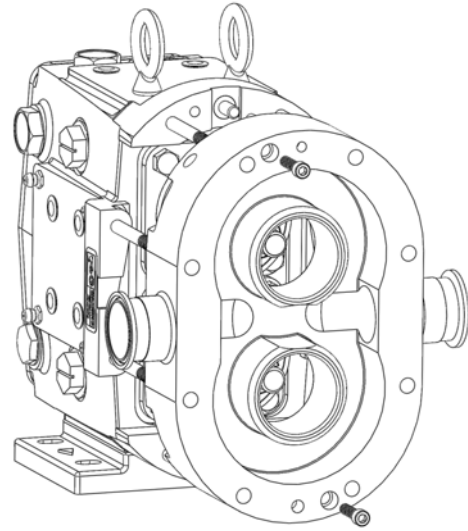

Figure 26: Removal of Pump Body
- 4) Remove the two body hold down bolts using the appropriate driver. Pull the pump body off by sliding it along the studs (Figure 26). If the body is stuck, use a soft mallet to tap the body. Inspect the body for excessive wear, clean, and continue on to seal maintenance. It is important to re-assemble the pump body back onto the original gear case because the shafts are shimmed for that particular body.